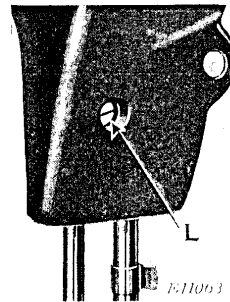
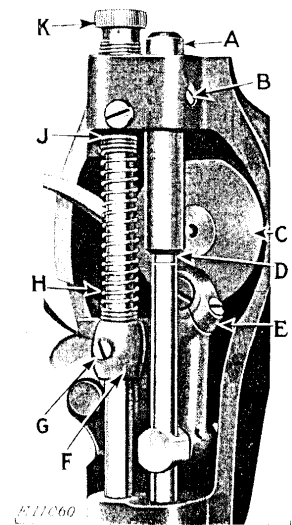

FIG. 20. SCREW TO ADJUST NEEDLE BAR HEIGHT
FIG. 21. NEEDLE BAR AT CORRECT HEIGHT
end of the needle bar bushing as shown by (D, Fig. 21). If this adjustment has been disturbed, turn the balance wheel over toward you to bring the set screw (L, Fig. 20) to a position where it is accessible through the hole at (I). Loosen
screw (L) and have the needle bar connecting link (E) parallel with the needle bar when the thread take-up cam (C, Fig. 21) brings the upper end of the connecting link (E) to its lowest position as shown in Fig. 21. This is to obtain the lowest point in the needle bar action. Then set the needle bar with its **upper** timing mark just visible at the lower end of needle bar bushing as shown in Fig. 21. Tighten screw (L).
Remove needle clamp and thread guard from the needle bar. Loosen needle bar set screw (L, Fig. 20) and push the needle bar up and out through the needle bar bushing (A, Fig. 21) together with the needle bar oiling wick in the bushing. Remove the needle bar connecting link (E, Fig. 21) from the thread take-up cam (C, Fig. 21). Loosen needle bar bushing set screw (B, Fig. 21) and, using a suitable brass rod, drive the bushing (A, Fig. 21) downward and out from the machine arm.